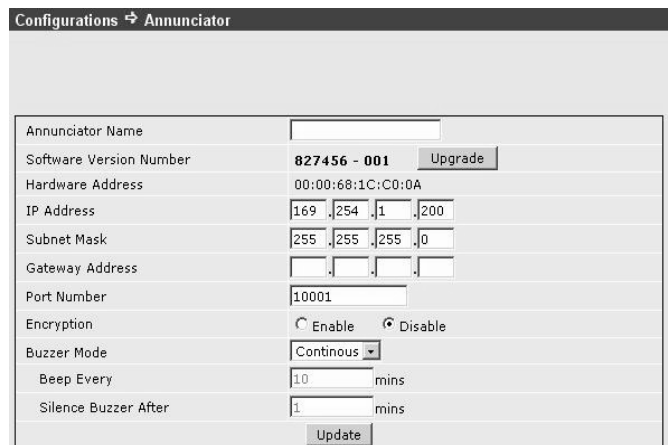

Figure 5: Configurations > Annunciator
6. The Configurations > Annunciator screen appears. See Figure 5. The configurations features are: